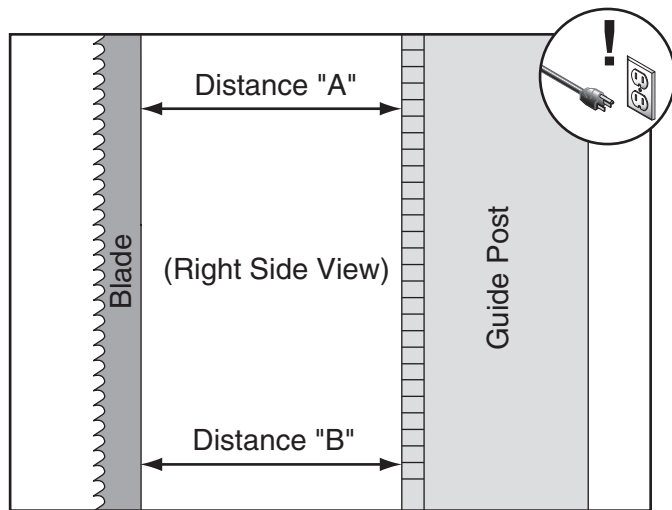

Figure 111. Example of measuring distance between rack and blade at top of guide post.
4. Measure the distance "A" between the upper front face of the guide post rack and the back of the blade (see **Figure 111**).
5. Measure the distance "B" between the bottom front face of the guide post rack and the back of the blade (see **Figure 111**).